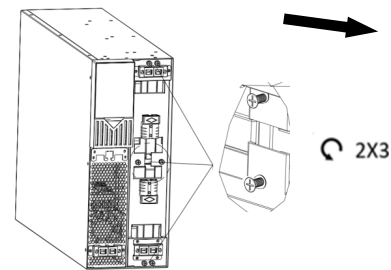

Figure 11
2. Unscrew and remove the battery retention bracket using a Philips screwdriver. (FIG. 11)